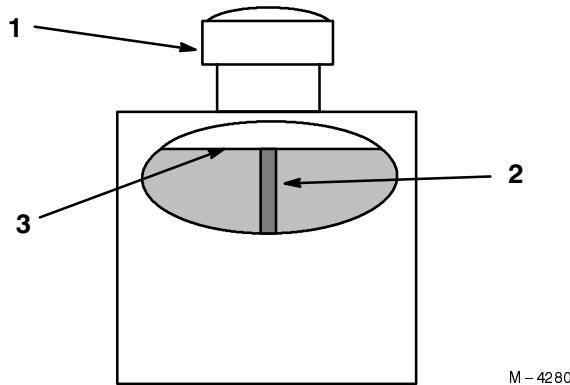

Figure 40
2. Clean area around filler neck of hydraulic tank (Fig. 40).
3. Remove cap from filler neck. Look inside to check if there is fluid in the reservoir. (Fig. 40).
Note: Fluid level should be to the top of the baffle when fluid is warm (Fig. 40).